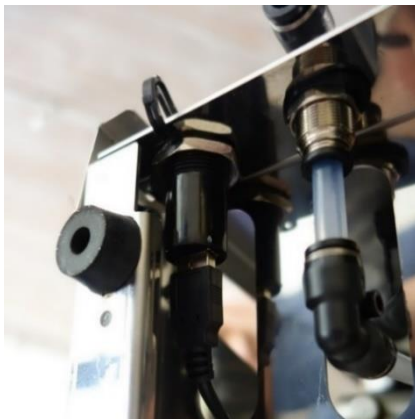

Figure 43: USB port locking nut from underside of machine
2. Remove locking nut access via underside of machine, see Figure 43.